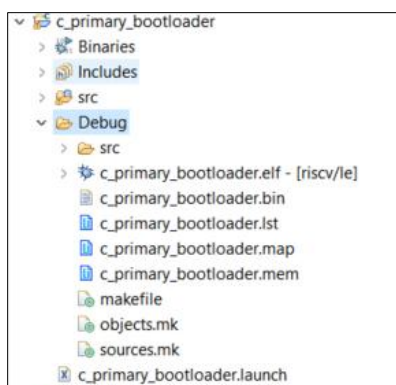

Figure 7.31. Bootloader Binary Created
9. This creates a debug folder as shown in Figure 7.31. The binary created is named **c_primary_bootloader.mem**. This goes as a part of System Memory in Propel Builder SoC design. This can be done through ECO editor or directly from the Propel Builder System Memory user interface.